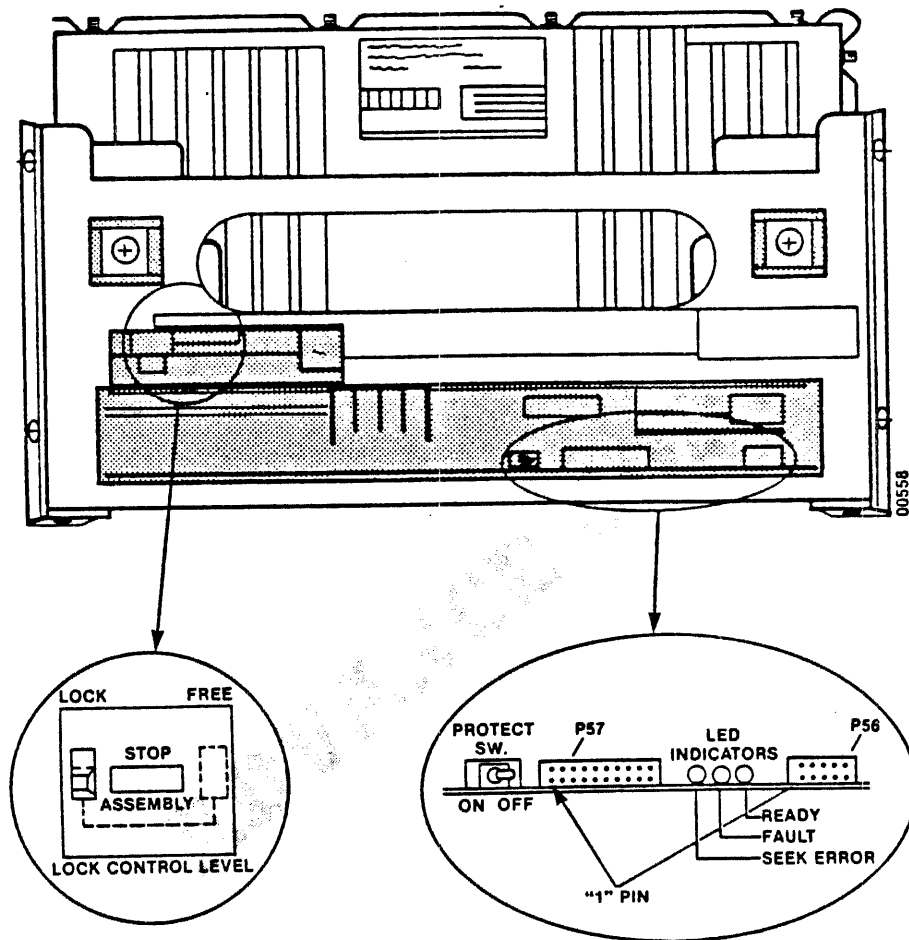

Figure 3-4 Model 31 Plus Drive Locking Lever
4. For the Model 31 Plus, verify that the drive actuator locking lever is in the LOCK position (Figure 3-4).
7. Move the drive actuator locking lever to the LOCK position (reference Figure 3-4).